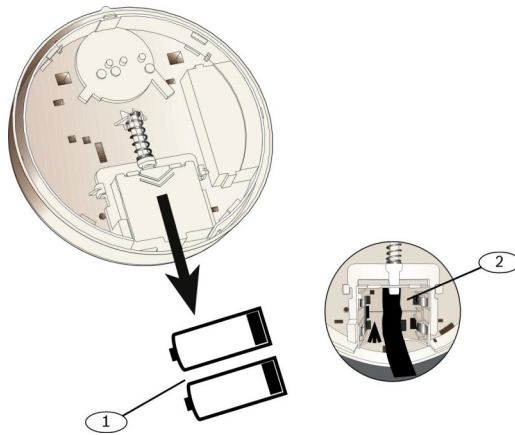

Figure 3.2: Battery install
2. Remove the batteries (*Figure 3.2*).